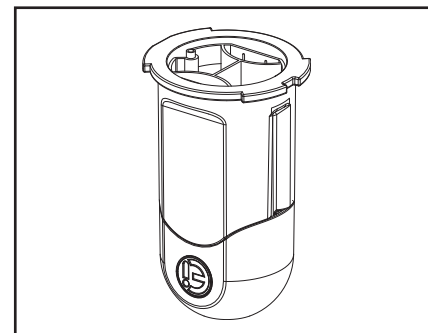

Figure 28. Invert the Cell
7. Refit the cap on the cell and invert (see Figure 28).
8. With protective glasses and gloves on, add one (1) part muriatic acid to ten (10) parts water and mix.